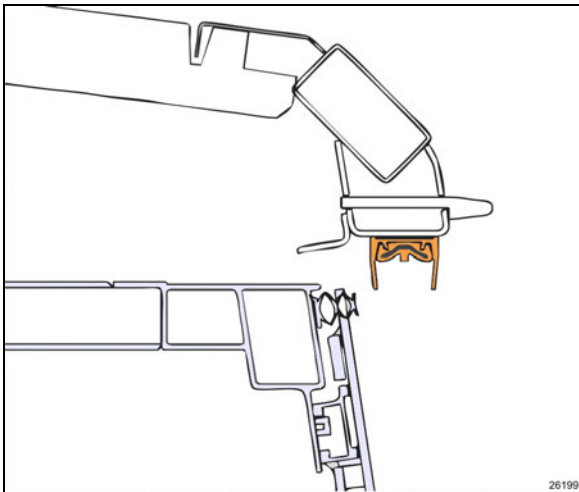

FIGURE 21: ROOM 2" INSIDE – UPPER SECTION VIEW
Do not retract slide-out room too far in. Retract just past the wiper seal. (Figure 21)
- Using the manual override procedure paragraph 5, move the slide-out 2" inside the vehicle just so the seal becomes accessible from the outside (Figure 21).